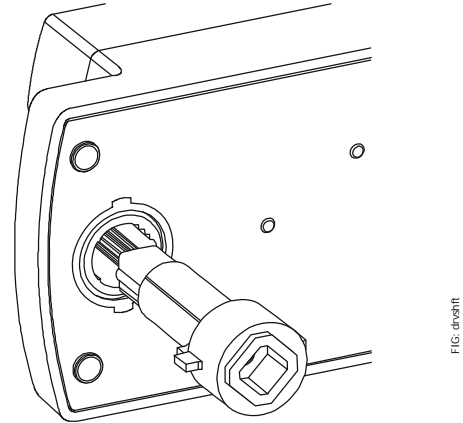

Figure 7: Installing the Drive Shaft
5. Insert the linkage drive shaft into the actuator output hub as shown in Figure 7.